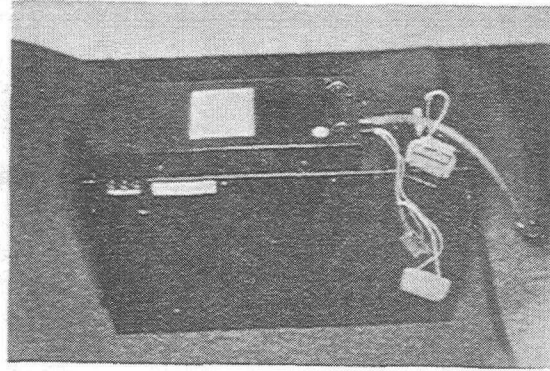

Figure 3
5. Attach interface box to rear of CD changer unit using three M2x5 bolts (Fig. 3).